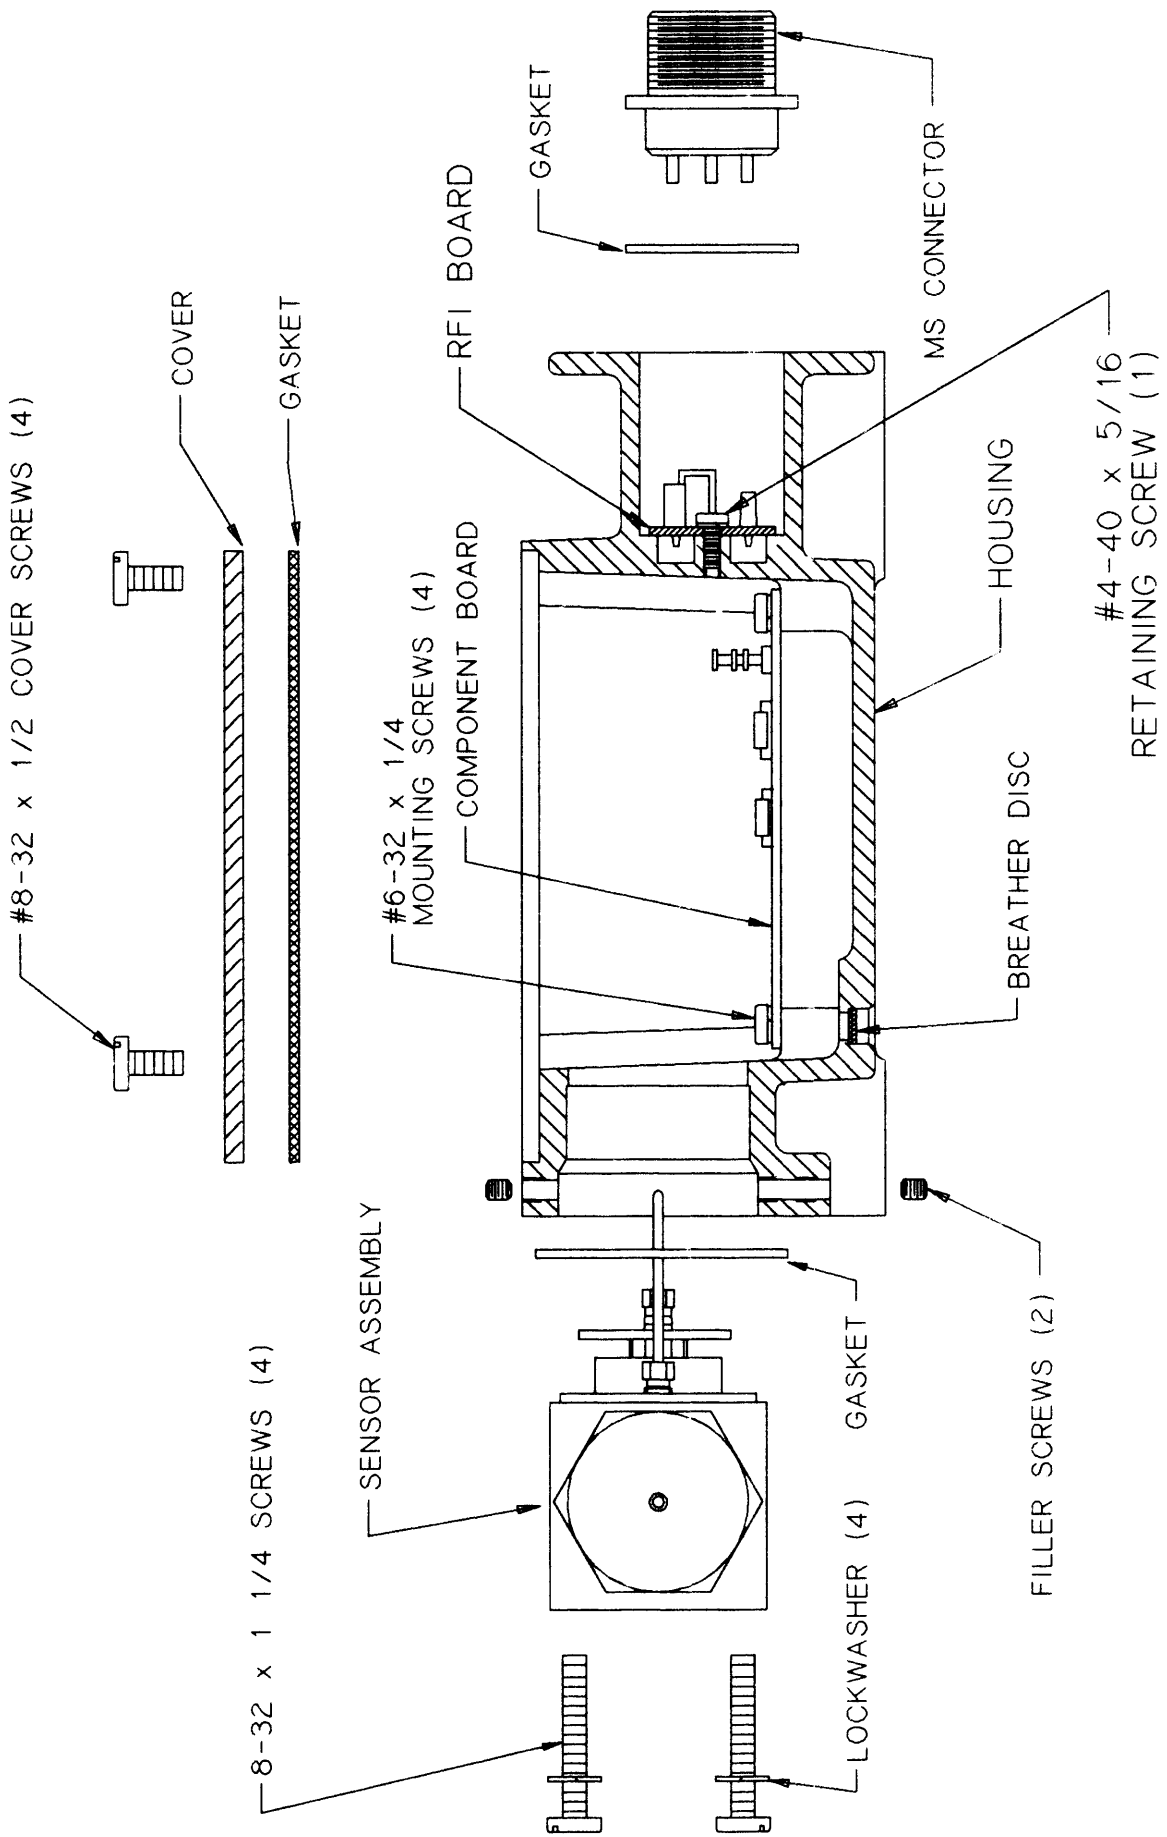

FIGURE 6-3. TRANSDUCER ASSEMBLY
- b) To gain access to the TEST terminals and the ZERO and SPAN adjustments, remove the housing cover (Figure 6-3) by removing the four cover retaining screws and lifting the cover off by placing a screwdriver in the cover access notches supplied in the housing. The electrical connections can now be made to the TEST terminals.
- j) Insure that the cover gasket is clean and in place. Replace the housing cover (Figure 6-3) by placing the cover on the housing and securing it with the four cover retaining screws.